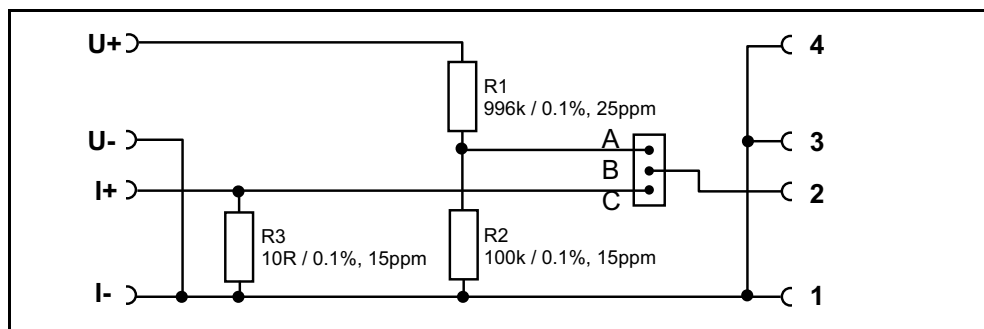

Figure 10 Circuit diagram U/I input plug
The circuit diagram of the U/I input plug is shown in figure 10.
3. If the U/I input plug is to be used in connection with another ("customer-specific") special characteristic, the voltage divider R1, R2 or the current shunt R3 of the U/I input plug must be taken into account in the characteristic input (see circuit diagram figure 10).